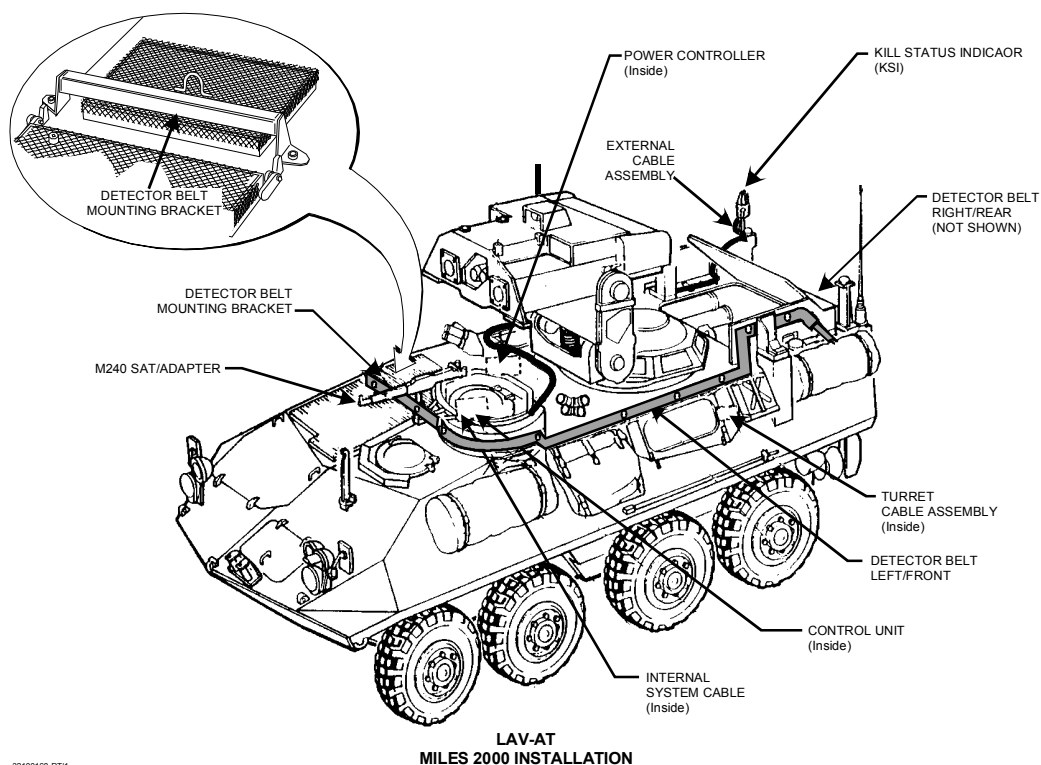

Figure 2-13. LAV-AT.
- h. Remove the two (2) bolts shown in Figure 2-13, and keep them with you.